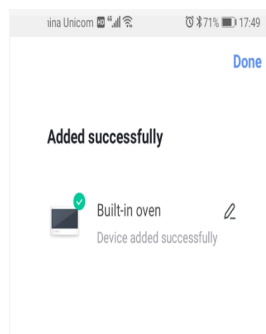

Fig.5
6. After the connection is successful, it is easier to find and control the equipment for the name of the device, as shown in Fig.5.